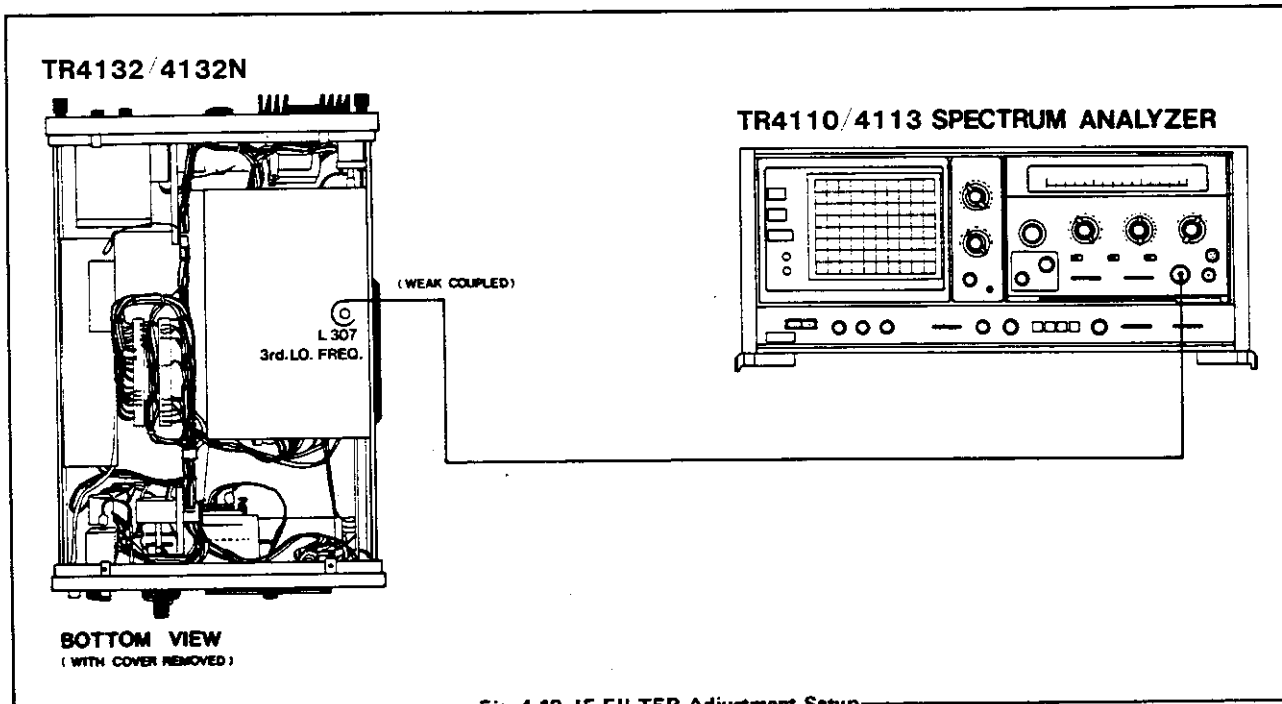

Fig. 4-12 IF FILTER Adjustment Setup
- (1) Turn **TUNING** fully counter-clockwise. Adjust R84 (Lo. F) to correspond the zero frequency to the 4th vertical line from the right on the CRT. [Fig. 4-12(a)].
- (2) Turn **TUNING** fully clockwise. Adjust R86 (Hi. F) to correspond 10th harmonic (1000MHz) signal to the 4th vertical line from the left. [Fig. 4-12(b)]
- (1) Remove the cover of IF FILTER (Board SK030) and loosely couple on L307 to the Spectrum Analyzer. (Fig. 4-12)